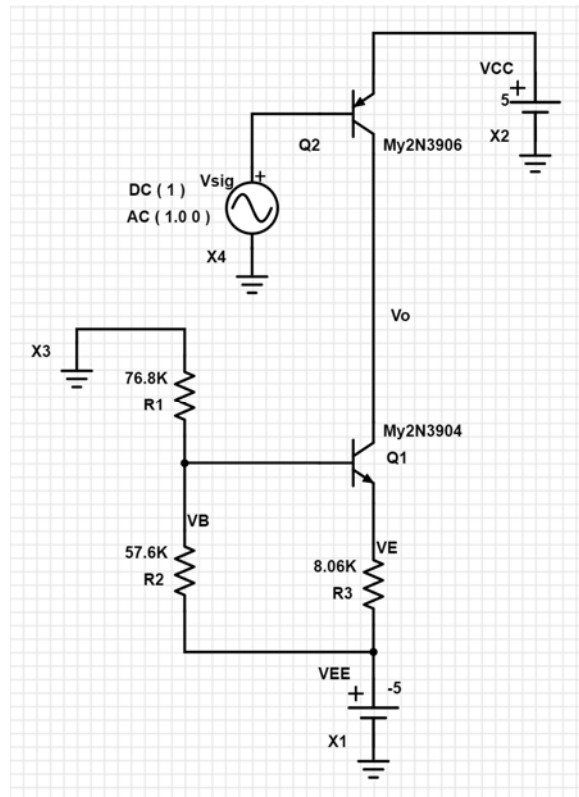

Fig. 2 Schematic diagram of the common emitter (CE) amplifier
B. Pre-lab Simulation – Common-Emitter (CE) Amplifier
- 1.4 Construct the CE amplifier, as shown in Fig. 2, using a PNP-BJT 2N3906 and the current sink
D. In-lab Measurement – Common-Emitter (CE) Amplifier
- 1.12 Based on Fig. 2, construct the measurement setup for the common-emitter (CE) amplifier. Use $V_+ = 5V$ for V_{CC} , $V_- = -5V$ for V_{EE} , and Wavegen 1 (W1) for V_{sig} . Connect GNDV+, GNDV-, and GNDW1 to a common ground line.